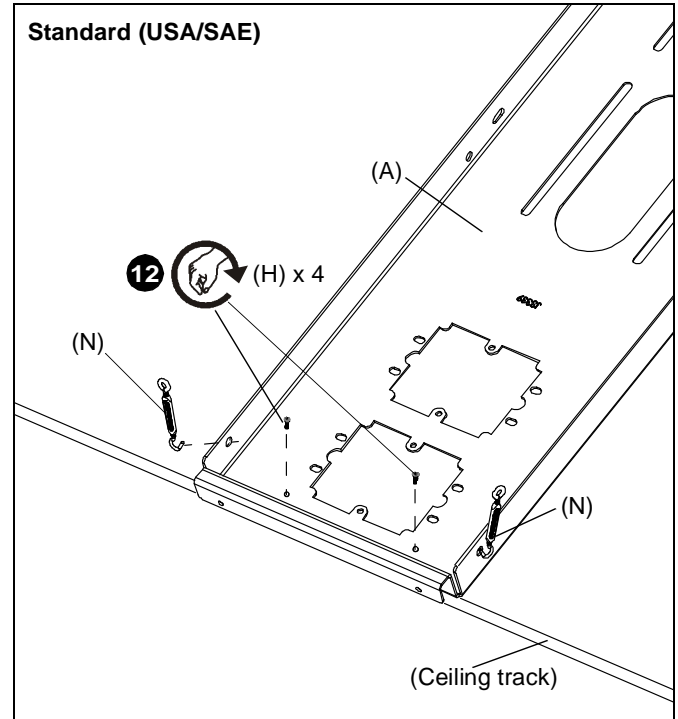
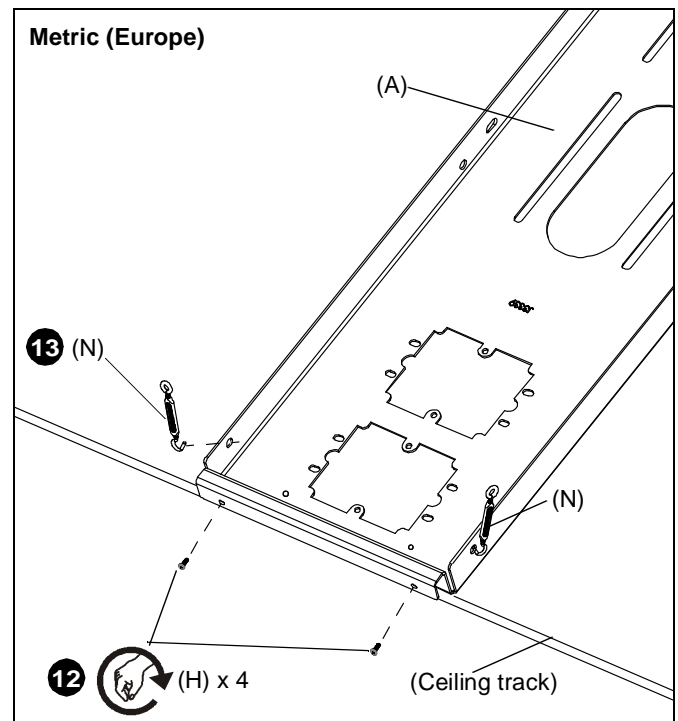

Figure 5
Figure 6
6. Examine ceiling structure (concrete, steel truss, or wood) above tray (A) to identify the following (See Figure 5):
- Four support wire anchor locations, each approximately 15° outboard of corresponding hanger bracket (G). Mark locations with pencil.
- One safety cable anchor location directly above center of tray (A). Mark location with pencil.
7. Remove ceiling tray (A) and affected ceiling tile.
9. **OPTIONAL:** Cut electrical box opening in tile at marked location. Install UL Listed electrical box (not included) to ceiling tray (A) following instructions included with electrical box.
10. Temporarily clamp ceiling tray (A) to the ceiling track.
11. Mount the ceiling tray (A) above the ceiling tile. (See Figure 5) for SAE applications and (See Figure 6) for Metric applications.
12. Attach ceiling tray (A) to ceiling track using four 10-24 x 5/8" Phillips head self-tapping screws (H) in the inside four holes of tray for SAE applications (See Figure 5) or in the outside four holes of tray for metric applications. (See Figure 6).
13. Hook turnbuckles (N) into holes on sides of ceiling tray. (See Figure 5) and (See Figure 6)